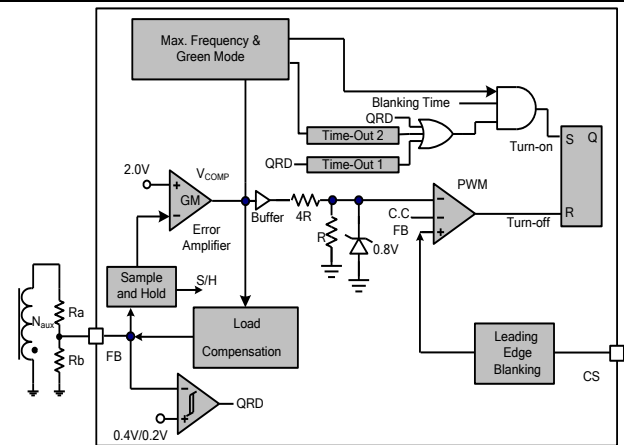

Fig. 16
The LD9162C employs quasi-resonant (QR) switching scheme to switch in valley-mode either in CV or CC operation. This will greatly reduce the switching loss and the ratio dv/dt in the entire operating range for the power supply. Fig. 16 shows the typical QR detection block. The QR detection block will detect auxiliary winding signal to drive MOS as FB pin voltage drops to 0.2V. The QR comparator will not activate if FB pin voltage remains above 0.4V.